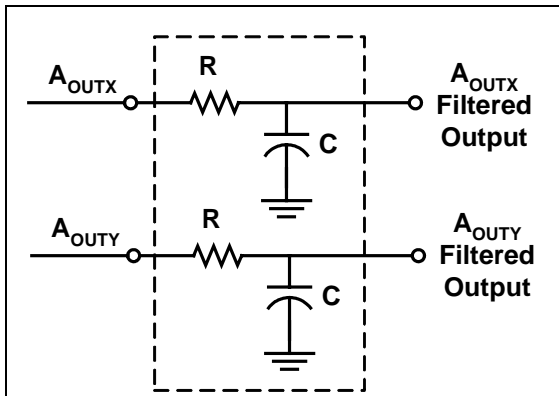

Figure 4: Low Pass Filter
**Low Pass Filter:** An external low pass filter is useful in low frequency applications such as tilt or inclination. The low pass filter limits the noise floor and improves the resolution of the accelerometer. The low pass filter shown in Figure 4 has a  $-3\text{dB}$  breakpoint given by the equation:  $f = 1/2\pi RC$ . For the 200 Hz absolute output device filter,  $C=0.2\mu\text{F}$  and  $R=39\text{k}\Omega$ ,  $\pm 5\%$ ,  $1/8\text{W}$ .